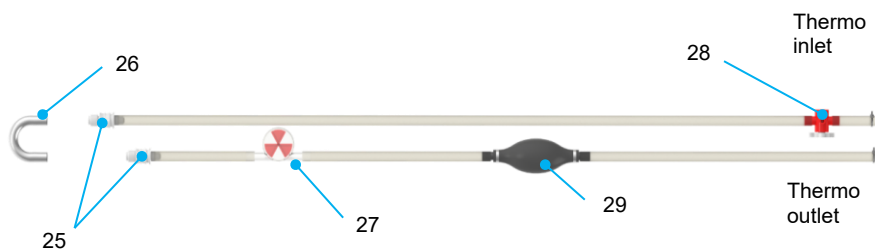
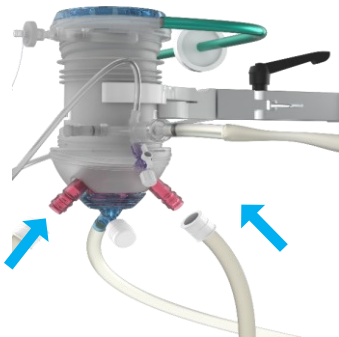

Figure 6 Thermo tubing
Figure 12 Connect the thermo tubing to the oxygenator
The Thermo Unit maintains the temperature of the circulated perfusion solution using Peltier elements. Depending on the set temperature, these elements cool or heat the internal water circuit using thermoelectric effect. To transfer the temperature of the internal water circuit to the perfusion solution, the Thermo Unit is connected via silicone tubing to the heat exchanger ports of both oxygenators, see Figure 4 and Figure 6. The outlet port of the Thermo Unit is connected to the “water in” port of the heat exchanger and the inlet port of the Thermo Unit is connected to the “water out” port of the heat exchanger.
- Place the thermo tubing (Figure 6) with the water tubing coupler (item 26) as low as possible. Ensure that during filling and de-airing (section 2.3.1), the Thermo Unit inlet and outlet (Figure 6, items 21 and 22) are at the highest point, so air bubbles move toward the Thermo Unit.
- Repeatedly squeeze the de-airing balloon (Figure 6, item 29) to push out as much air as possible from the thermo tubing.
- Connect the thermo tubing to the oxygenator (Figure 12) using the water connectors (Figure 6, item 25). The oxygenator has two thermo tubing connectors, and either connector can be used for the inlet or outlet. Ensure one tube is connected to the thermo inlet and one to the thermo outlet (see Figure 6).